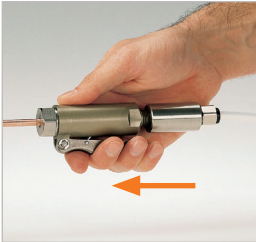

Figure 3
- ▶ Be careful to place the connector with actuated clamping lever (Pos. 2) straight and fully onto the test piece (*Figure 3*). Doing so will prevent any damage to the front seal caused by any sharp edges on the test piece and ensure a correct connection.